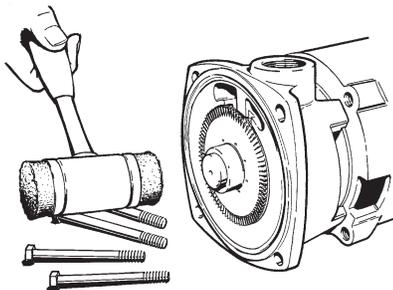

Figure 4-11
2. Remove the four (4) 3/8" X 4" bolts (#19) from the cover. (#2)
4. Remove the impeller(#11), refer to Figure 4-11. This is easily done by setting the motor on end. The impeller is a slip fit and under normal conditions, can be removed by hand or by gently tapping on the end of the shaft with a mallet. Striking the shaft too hard could damage the seat, rotating element, or the motor. After removing the impeller, the impeller key (#23) needs to be removed from the shaft keyway.